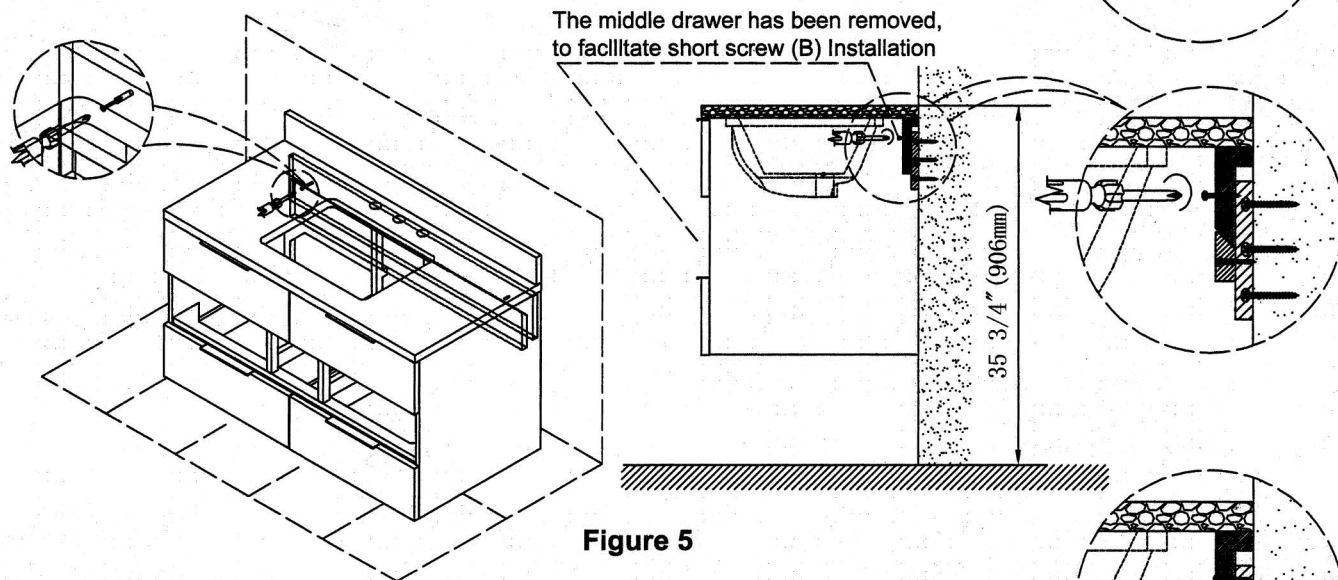

Figure 5
- Drive short screws (B) through the two holes located on the vanity hanging rail . See Figure 5.